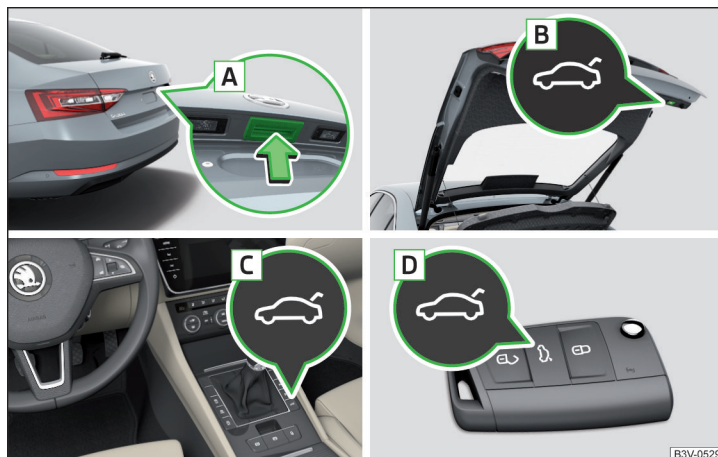

Fig. 58 Lid operation
- ▶ By pressing the handle **A** » Fig. 58.
- ▶ By pressing the button **B** » Fig. 58.
- Button **A** » Fig. 58 is deactivated when starting or at a speed of more than 5 km/h. The button is activated again after the vehicle has stopped and a door is opened.
- › Press and hold button **B** » Fig. 58 on page 64 until you hear an acoustic signal.
The lid does not react to an opening signal	Removing a possible obstacle (e.g. snow), re-opening the lid » page 64 Press handle A » Fig. 58 on page 64 and pull the lid upwards